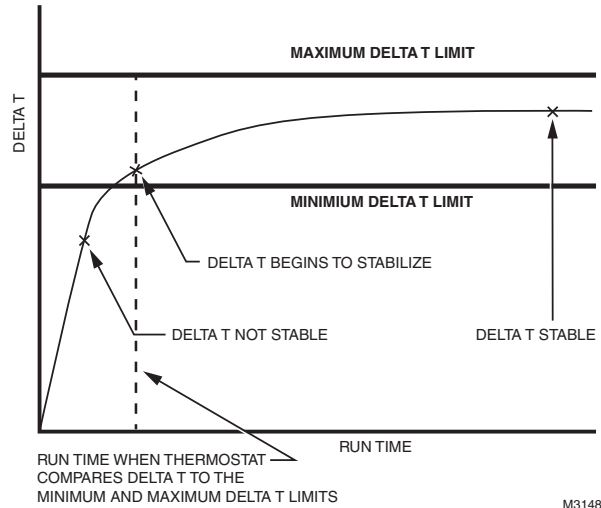

Fig. 148.
2. In gas or oil forced air systems, Delta T will continue to rise for several minutes even after Delta T begins to stabilize. Be sure the Maximum Delta T Limit is set higher than the expected stable Delta T. See Fig. 148.